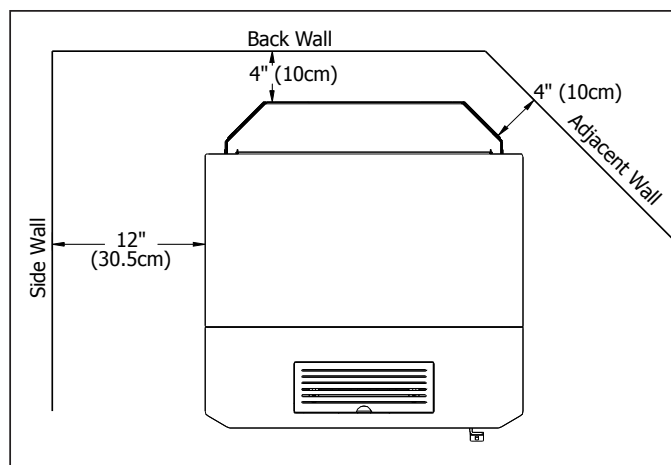

Figure 4: Maxx Clearance to Combustibles.
1. Remove the right and left hand cabinet sides. Partially back out the two (2) T-20 Torx screws on the back of the each panel and the two (2) located on the front inside edge below the louvers and ash shelf. Pull the panel forward then remove.
3. Secure the shield to the unit with two (2) screws on each side (see Figure 4).